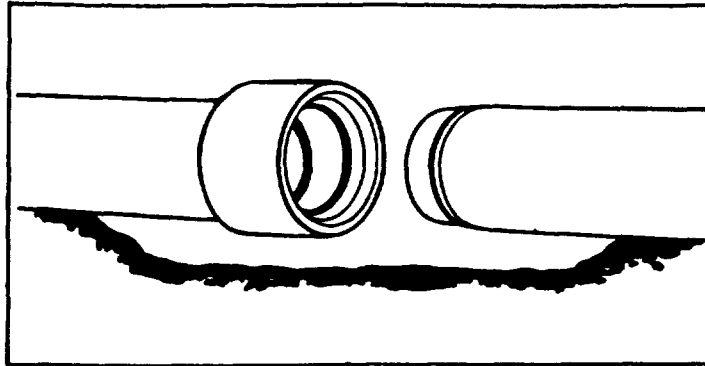

Figure 37
- C. Align the ends of each pipe, then separate about two feet (for UNbelled pipe) to allow for assembly. On PREbelled pipe, align pipe end with coupled end. (Figure 37). **IMPORTANT:** Make sure CERTA-SPACER® band is flush against first shoulder of unbelled end of pipe.